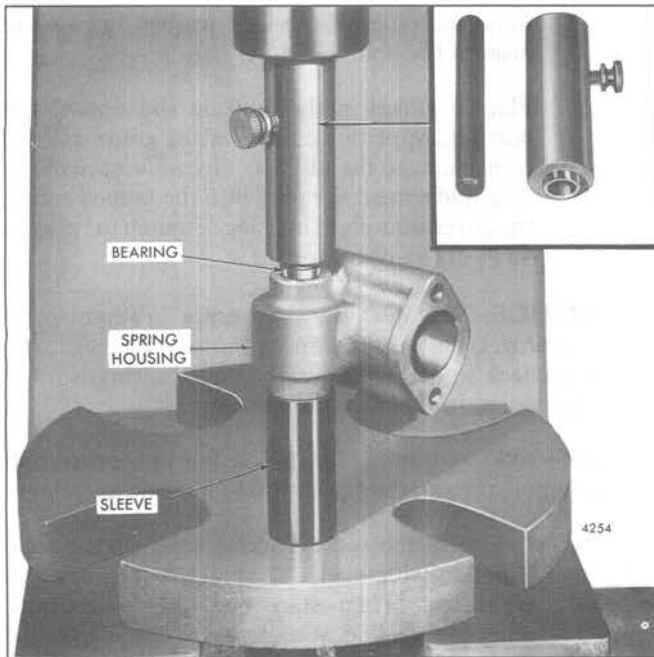

Fig. 22 – Installing Speed Control Shaft Bearings in Spring Housing using Tool J 9196
- c. Place the pilot rod end of the bearing installer assembly in the bearing. Support the spring housing, bearing and installer on a short sleeve on the bed of an arbor press as shown in Fig. 22. Then press the bearing in the housing until the shoulder on the installer contacts the housing.
- j. Remove the bearing pilot rod J 9196-2 from the installer body J 9196-1 and place the installer body over the end of the shaft and against the bearing. Support the spring housing, bearings and installer on a short sleeve on the bed of an arbor press as shown in Fig. 22. Then press the bearing in the housing until the shoulder on the installer contacts the housing.